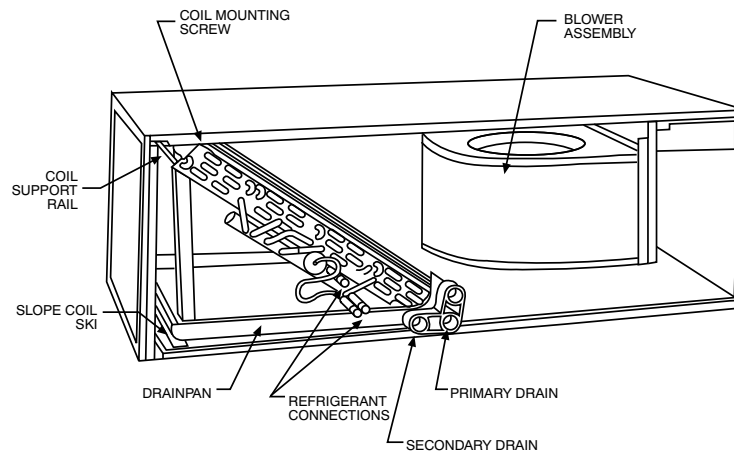

Fig. 5 – Conversion for Horizontal Right Applications - Slope Coil
4. Lay fan coil on its right side and reinstall coil assembly with condensate pan down (Fig. 5).